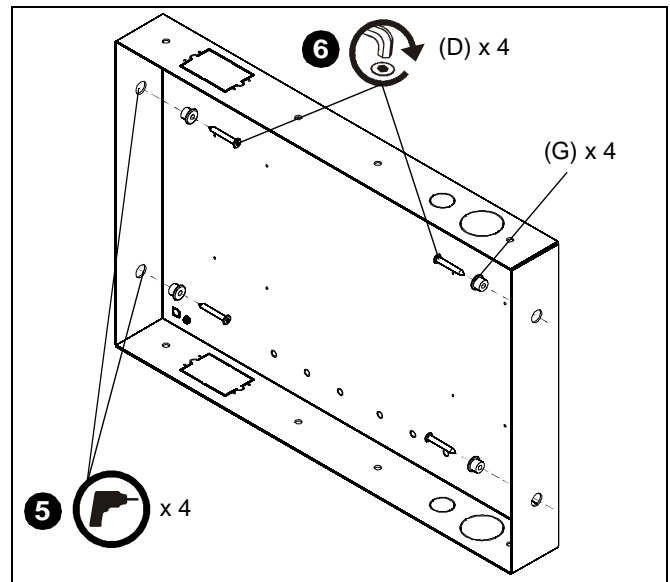

**Figure 4**
4. Center PAC-501 in opening and insert into opening. Align front of box with front face of wall. (See Figure 4)